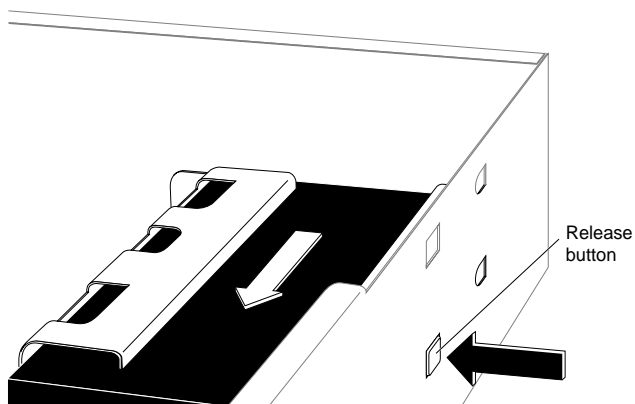

Figure 8-33 Removing the System Disk Drive
8. Remove the system drive and bracket from the lower drive slot by pressing the release button that protrudes through the hole on the side of the chassis and pulling the unit toward you, as shown in Figure 8-33.